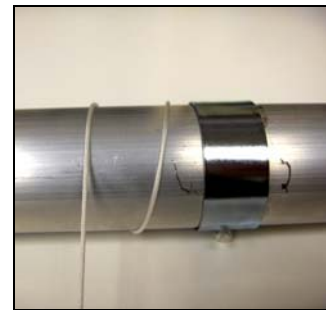

Figure 19 C-Clip on Tube
- Unwrap the cords and pull them up to the motor, making sure they do not become twisted or tangled. Wrap the cords over the top of the motor tube and push the C-clips onto the tube, offsetting them slightly toward the center to allow room for the cords to wrap. Take up any slack in the cords by turning the C-clips on the tube. See Figure 19.